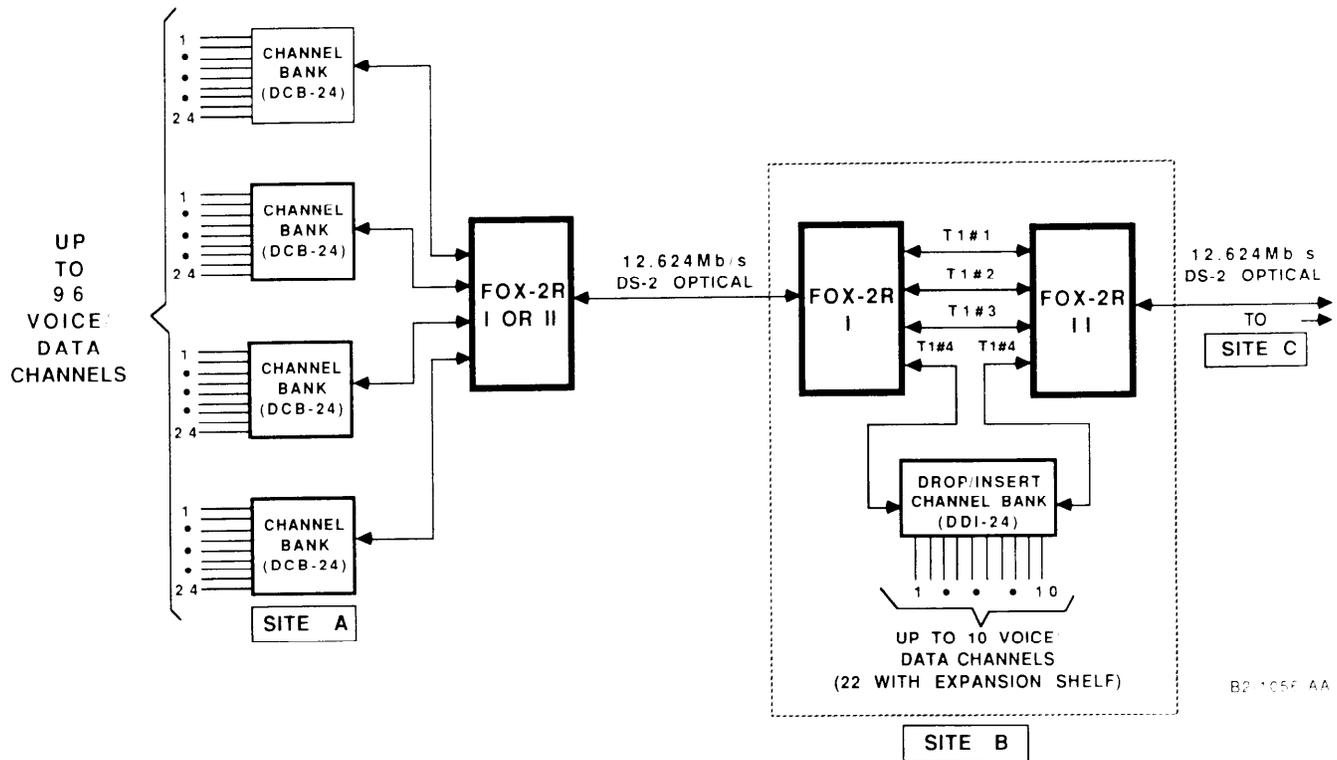

Figure 1-5. FOX-2R (I and II) Drop and Insert Application
5.03 An intermediate location along a DS-2 interoffice fiber optic trunk requires T1 access to support local voice and/or data service (see Figure 1-5). Since the FOX-2R is designed as a dual DS-2 optical unit, each unit (FOX-2R I and II) of the